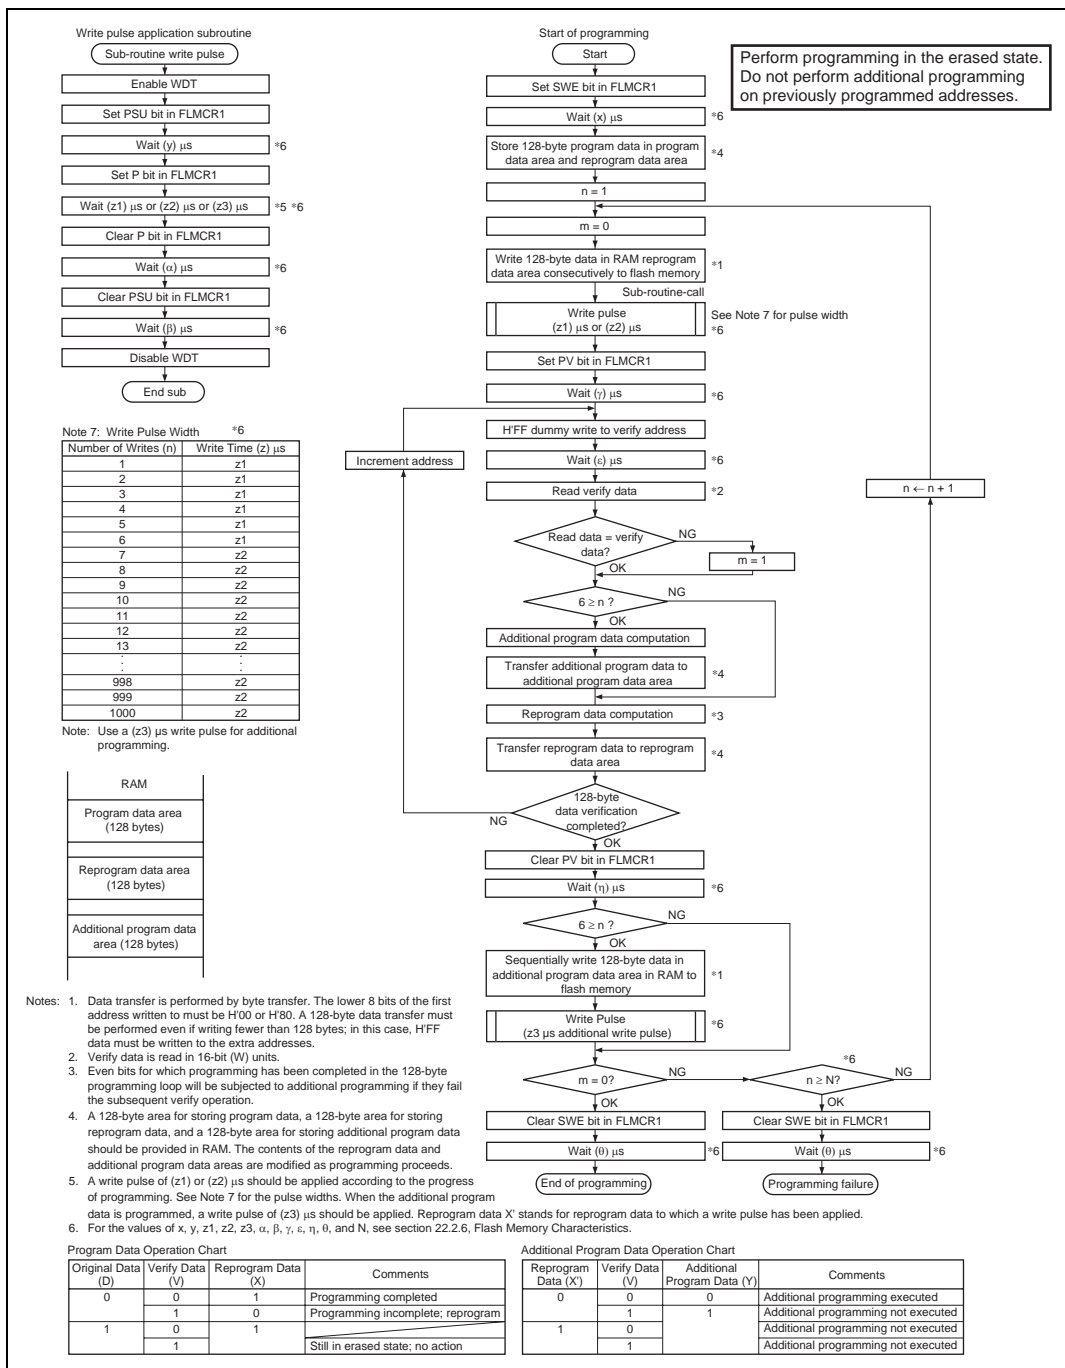

Figure 19.14 Program/Program-Verify Flowchart
Follow the procedure shown in the program/program-verify flowchart in figure 19.14 to write data or programs to flash memory. Performing program operations according to this flowchart will enable data or programs to be written to flash memory without subjecting the device to voltage stress or sacrificing program data reliability. Programming should be carried out 128 bytes at a time.
After the elapse of a given programming time, the programming mode is exited (the P bit in FLMCR1 is cleared to 0, then the PSU bit is cleared to 0 at least (α) μs later). Next, the watchdog timer is cleared after the elapse of (β) μs or more, and the operating mode is switched to program-verify mode by setting the PV bit in FLMCR1. Before reading in program-verify mode, a dummy write of H'FF data should be made to the addresses to be read. The dummy write should be executed after the elapse of (γ) μs or more. When the flash memory is read in this state (verify data is read in 16-bit units), the data at the latched address is read. Wait at least (ε) μs after the dummy write before performing this read operation. Next, the originally written data is compared with the verify data, and reprogram data is computed (see figure 19.14) and transferred to the reprogram data area. After 128 bytes of data have been verified, exit program-verify mode in FLMCR1 to 0, and wait again for at least (θ) μs . If reprogramming is necessary, set program mode again, and repeat the program/program-verify sequence as before. However, ensure that the program/program-verify sequence is not repeated more than (N) times on the same bits.